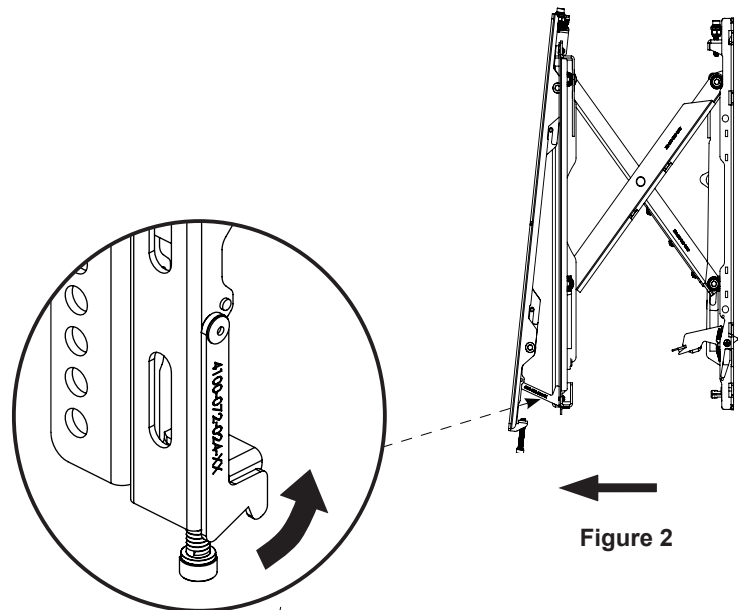
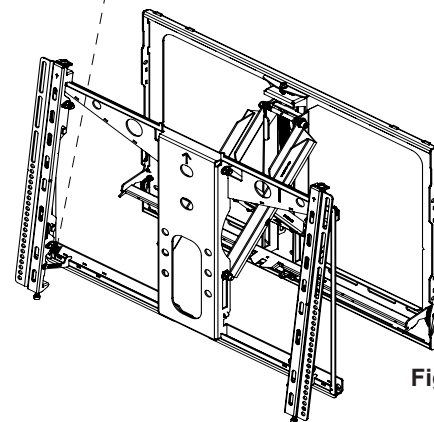

Figure 2
Figure 3
If the selected screw is longer than the 1/8" allowance mark on the small straw or toothpick, as shown in Figure 2 and Figure 3, do not use this screw. The screw length must not bypass the mark.
- 2) Slowly pull the front of the LMVS to extend the scissor arms (Figure 2).
- 4) Tilt up the bottom of the flat-panel, then set their kickstands against the bottom tubing of the mount (Figures 2 & 3).